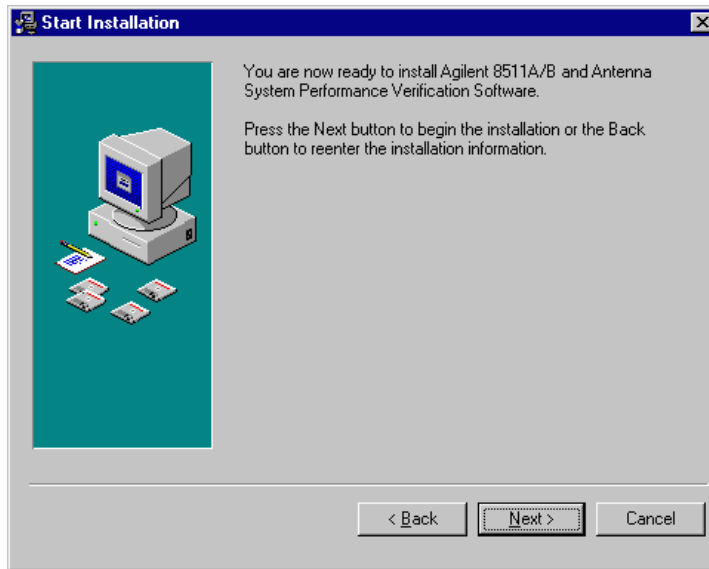

Figure 6 *Start Installation Window*
11. The **Start Installation** window is displayed. Click **Next>** to continue. See Figure 6 on page -16.